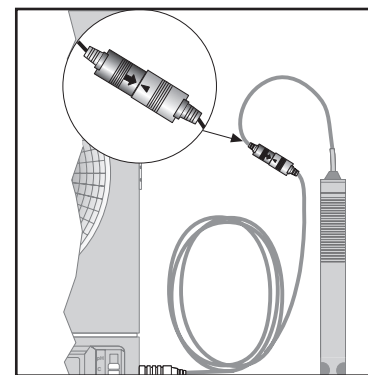

Figure 5
2. Install the connector into the sensor socket. Make sure the sensor cable is untwisted. Refer to Figure 5.
3. To use the sensor in a remote location, connect the 6 ft. remote sensor cable as shown in Figure 5